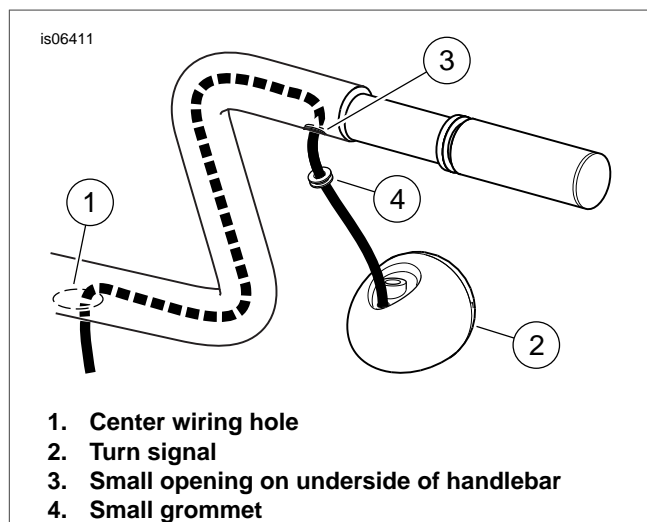

Figure 4. Handlebar-Mounted Turn Signal Wire Routing
If the original turn-signal wires passed **through** the switch housings and into the handlebar through the large opening (J), proceed to **Step 8** (after Figure 4).
If the original turn-signal wires were **externally routed**, see Figure 4. Slide one small grommet (4) onto each of the turn-signal wire bundles, positioning the grommet close to the turn signal end.
5. With the handlebar placed on a smooth, soft surface, grip ends upward, gently feed the right-side turn-signal (2) wire leader into the small opening (3) on the underside of the new handlebar and toward the large opening (1) in the center of the bar.